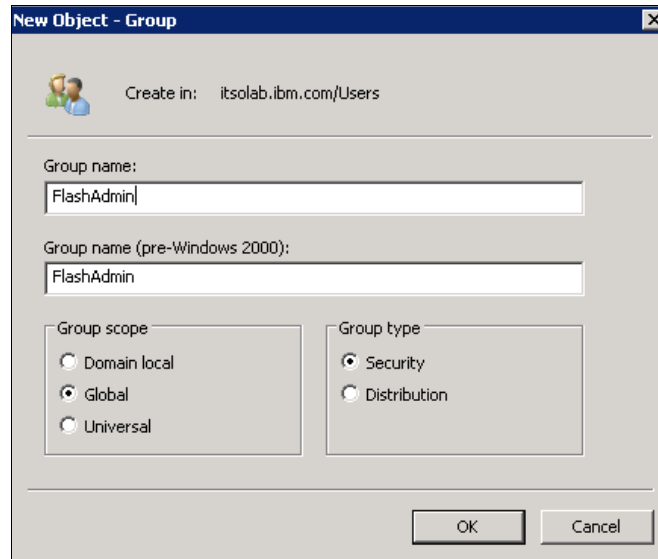

Figure 7-13 Active Directory to create a FlashAdmin group
2. In the New Object - Group window that opens (Figure 7-13 on page 245), type **FlashAdmin** for the new group name, keep the remaining default values, and click **OK**.